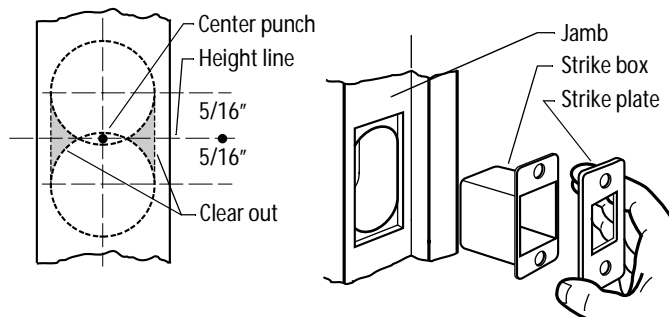

Figure 3 Installing the strike
- 1 Center punch the jamb directly opposite the bolt hole in the door. See Figure 3.
- 3 Using the strike as a guide, mortise the jamb and install the strike box and strike plate as shown in Figure 3.